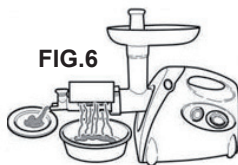

FIG.6
Attach the plastic splash guard (5) onto the sieve, position a container at the end of the pulp collection chute to collect the pulped tomatoes and another under the end of the sieve to collect the scraps (fig. 6).